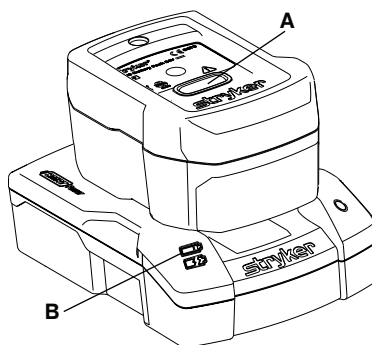

Figure 54 – Charging the SMRT Pak
To charge the **SMRT** Pak (Figure 54):
- The **SMRT** charger LED indicator (B) will flash green while charging (Figure 54). The optimum charge time is two hours.
- When the **SMRT** Pak is charged and ready for use, the **SMRT** charger LED indicator (B) will turn to solid green.
2. Press the red release button (A) (Figure 54) and slide the **SMRT** Pak to release the charged and ready **SMRT** Pak from the **SMRT** charger.